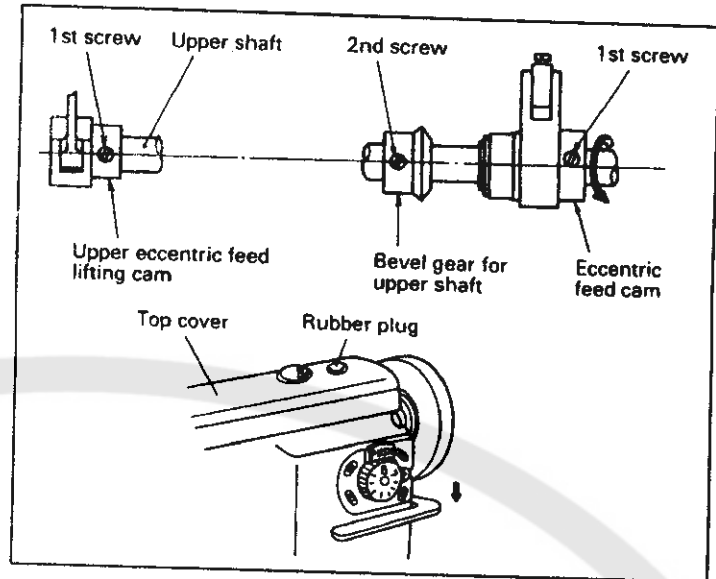

Fig.33
### 30、 Adjustment of feed timing (Fig.33):
- 1) The standard position of the eccentric feed cam and eccentric feed lifting cam are illustrated to Fig.33